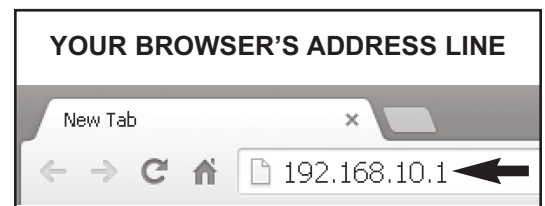

FIG. 22
4. Once your device indicates that it is connected to the "WHESCS" network, open your internet browser (Chrome, Firefox, Internet Explorer, etc.) and, in the address line (See Fig. 22), type in this URL: